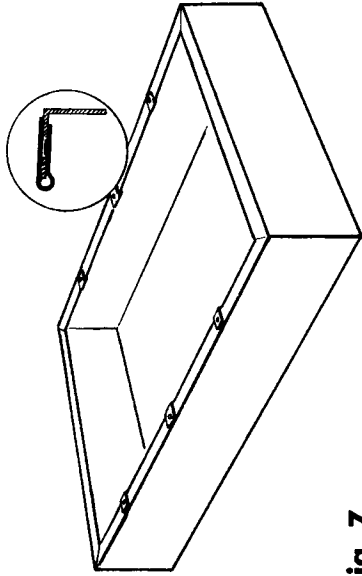

Fig. 7
- () 4. Press a No. 8 tinnerman speed nut in place over each hole on the bottom flange of the chassis. (See Figure 7).